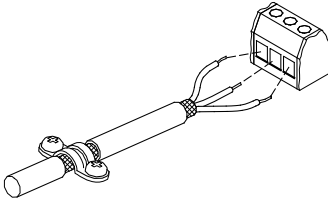

Fig. 10 Stripped cable with screen and wire connections
- Connect the screens of the cables to the frame at both ends with good connection. The screens must be as close as possible to the terminals. See fig. 10.